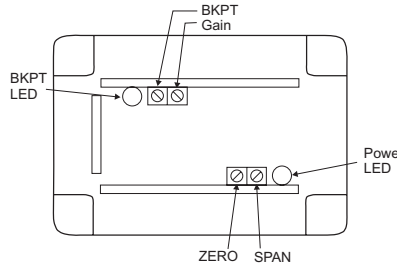

Figure 3: AP4380-5000 (Top View)
3. Refer to Figure 3 for potentiometer locations.